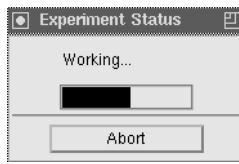

Figure 12: “Working...” dialog.
- Run** Starts the experiment. While the experiment is performed, a “Working...” dialog appears (see Fig. 12). The experiment may be aborted with the **Abort** button of the “Working...” dialog.